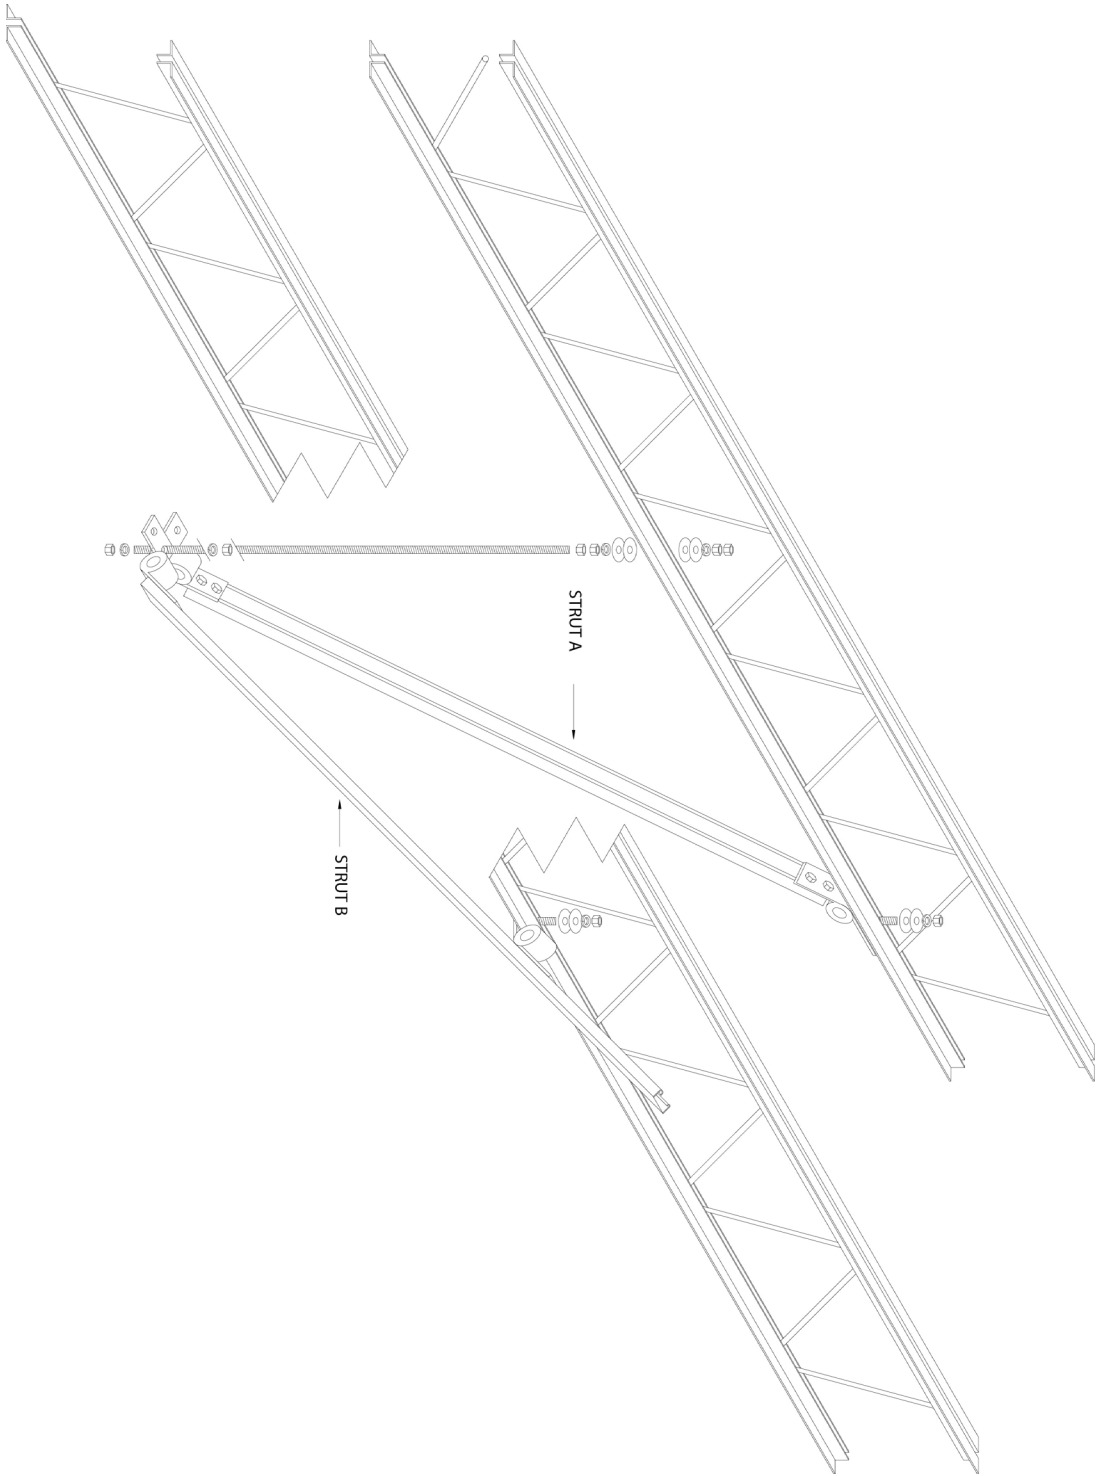

Figure 1
- **WARNING:** Check shackle for wear and movement. If more than 30% of the thickness of the shackle is worn away (See fig. 1), discontinue use until replaced. If the swivel moves excessively, discontinue use until all hardware is checked and tightened.